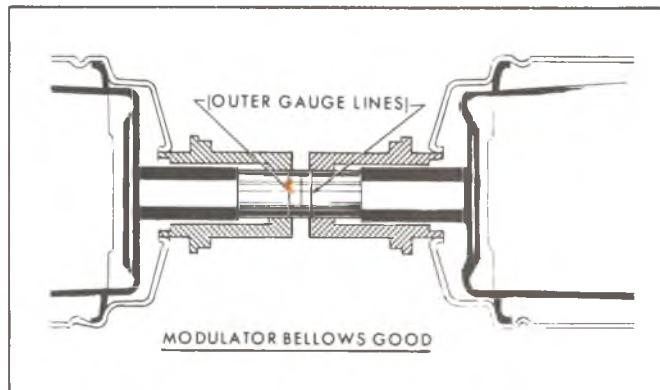

Fig. 38T—Modulator Bellows (Good)
- Holding the modulators in a horizontal position, bring them together under pressure until either modulator sleeve end just touches the line in the center of the gauge (Fig. 38T). The gap between the opposite modulator sleeve end and the gauge line should then be  $1/16''$  or less. If the distance is greater than this amount, the modulator in question should be replaced.